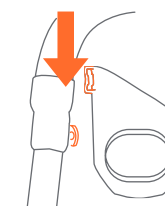

Fig. 12
- 12) • To attach cup holder: slide the clip on the cupholder over Cup Holder tabs on the Handle Bar. Push until firmly in place (Fig. 12).